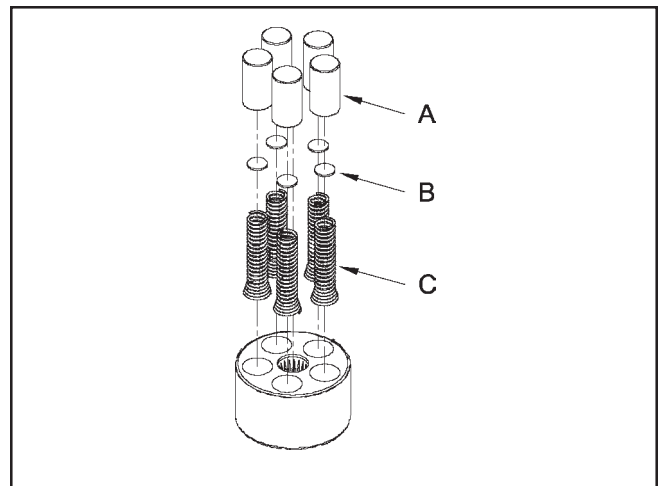

Figure 13
9. **(See Figure 13)** Check each piston for proper operation by pressing the pistons in and releasing them in the block bore. Disassemble the pump cylinder block. Check for piston/block wear in the cylinder bore. Inspect the pistons (A), piston springs (C) and thrust washers (B) for excessive wear or damage. NOTE: Thrust washers may be held in place in the piston by residual oil.